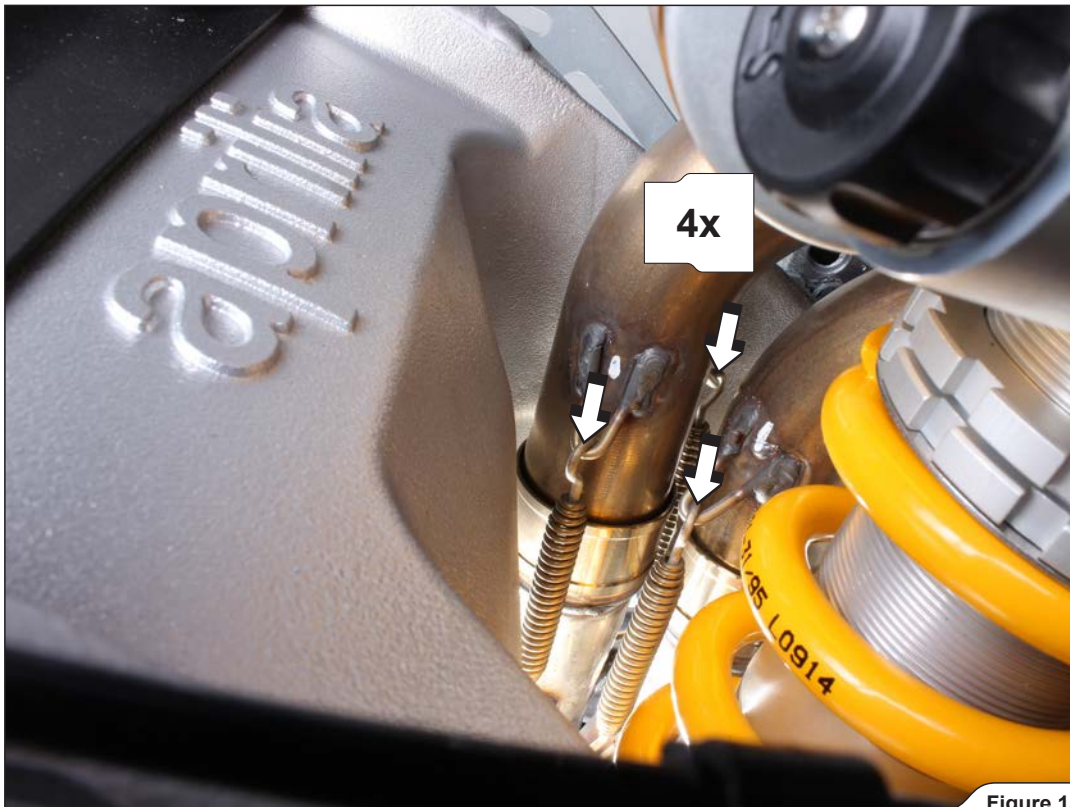

Figure 13
- Unhook the marked springs (Figure 13).